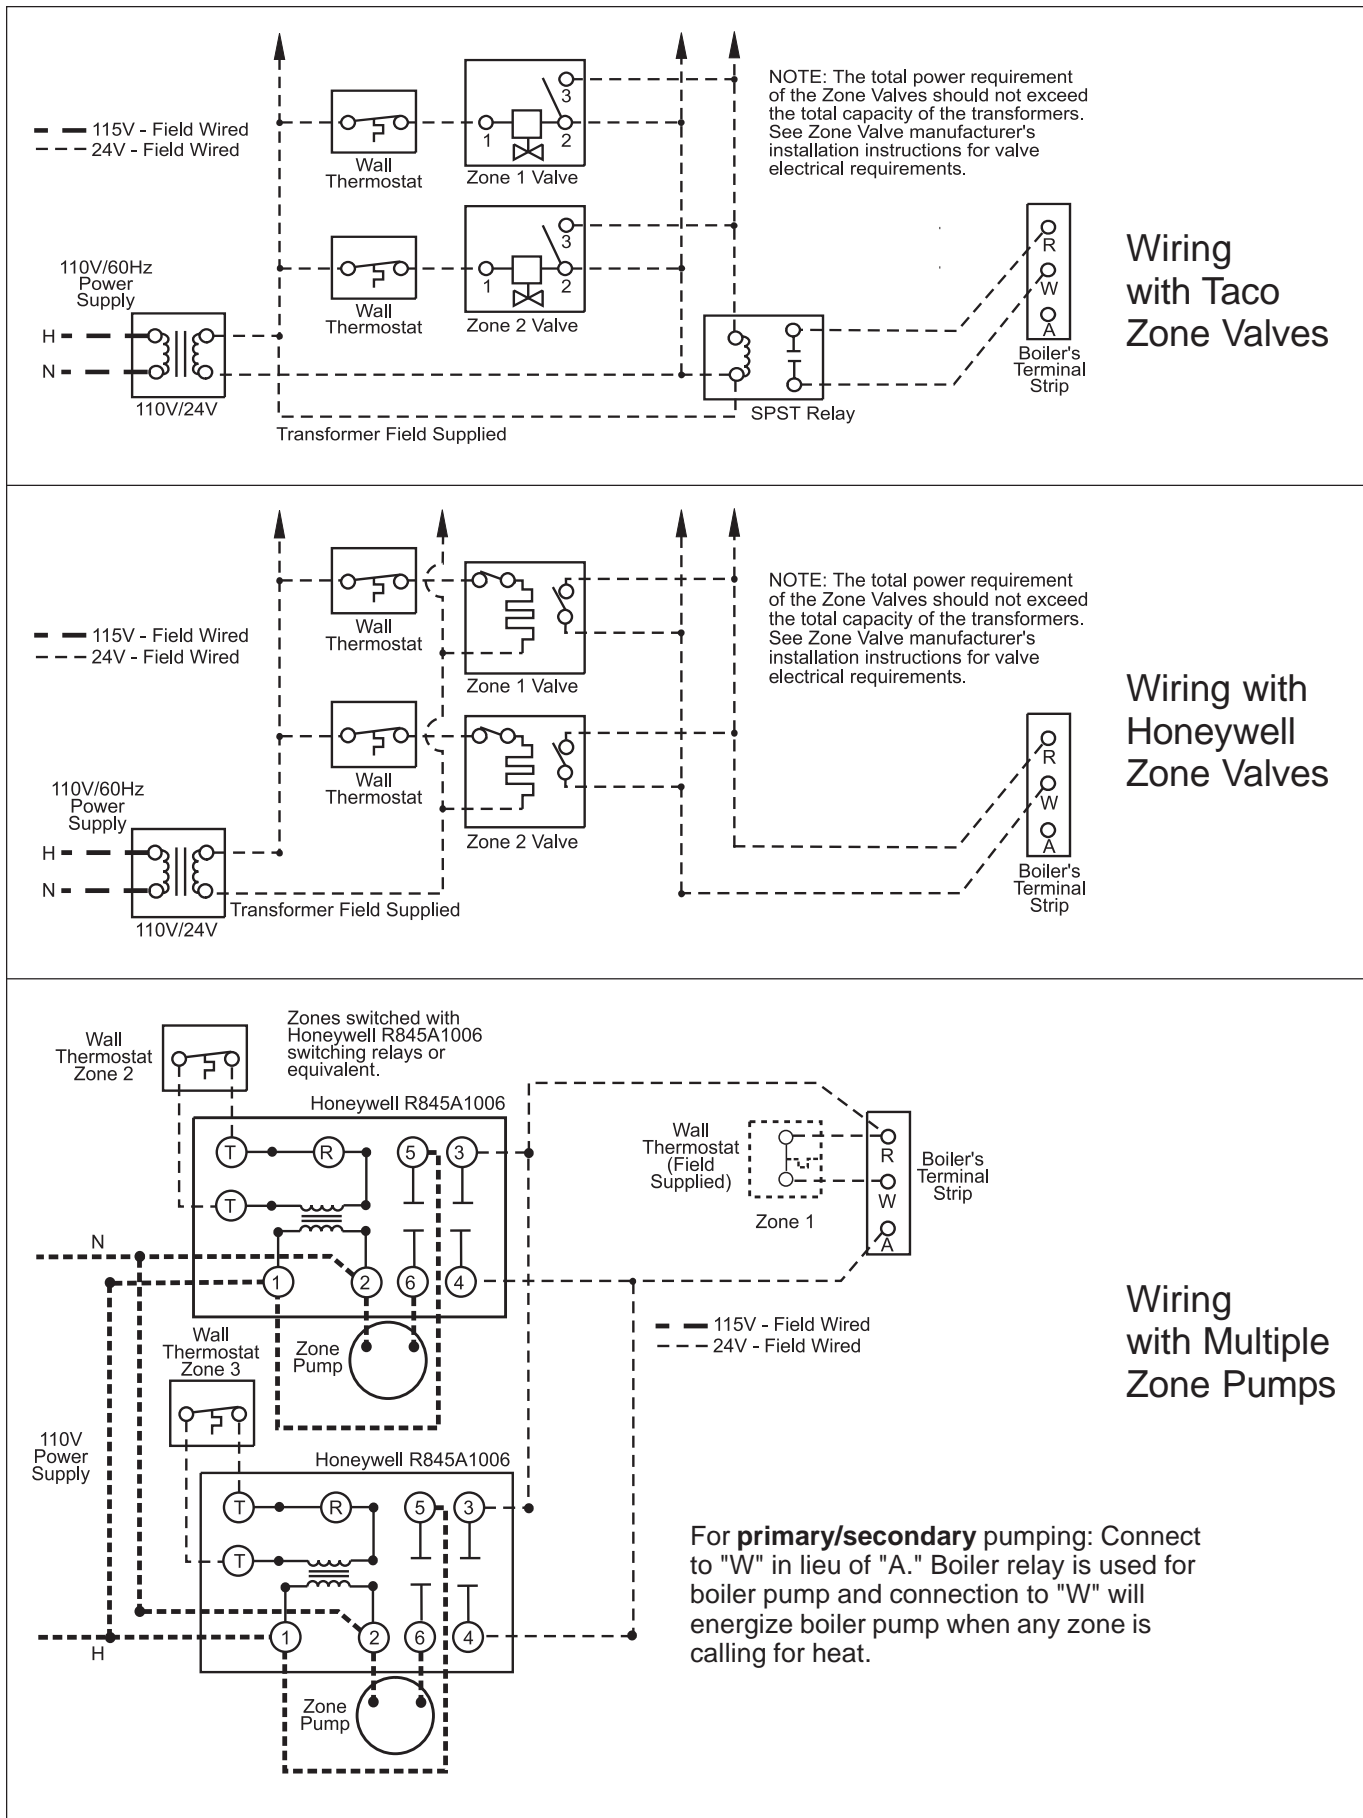

Figure 12. Multiple Zone Wiring.
6. For systems with multiple zone pumps or valves (see Figure 12).